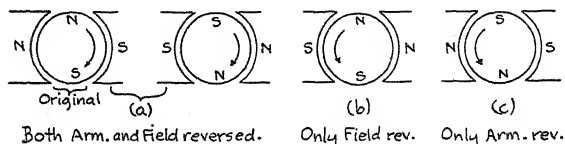

FIG. 99. Reversing a d.c. motor.
**105. Reversing a Motor.** In your experiments with your model motors, you already have learned that, to reverse a d.c. motor, you must reverse either the field current, or the armature current — but not both. This is illustrated in Figure 99. Part (a) of this diagram shows that when both the field and armature fluxes are reversed, the poles are still being attracted and repelled the same way as before. Thus, reversing the line con-